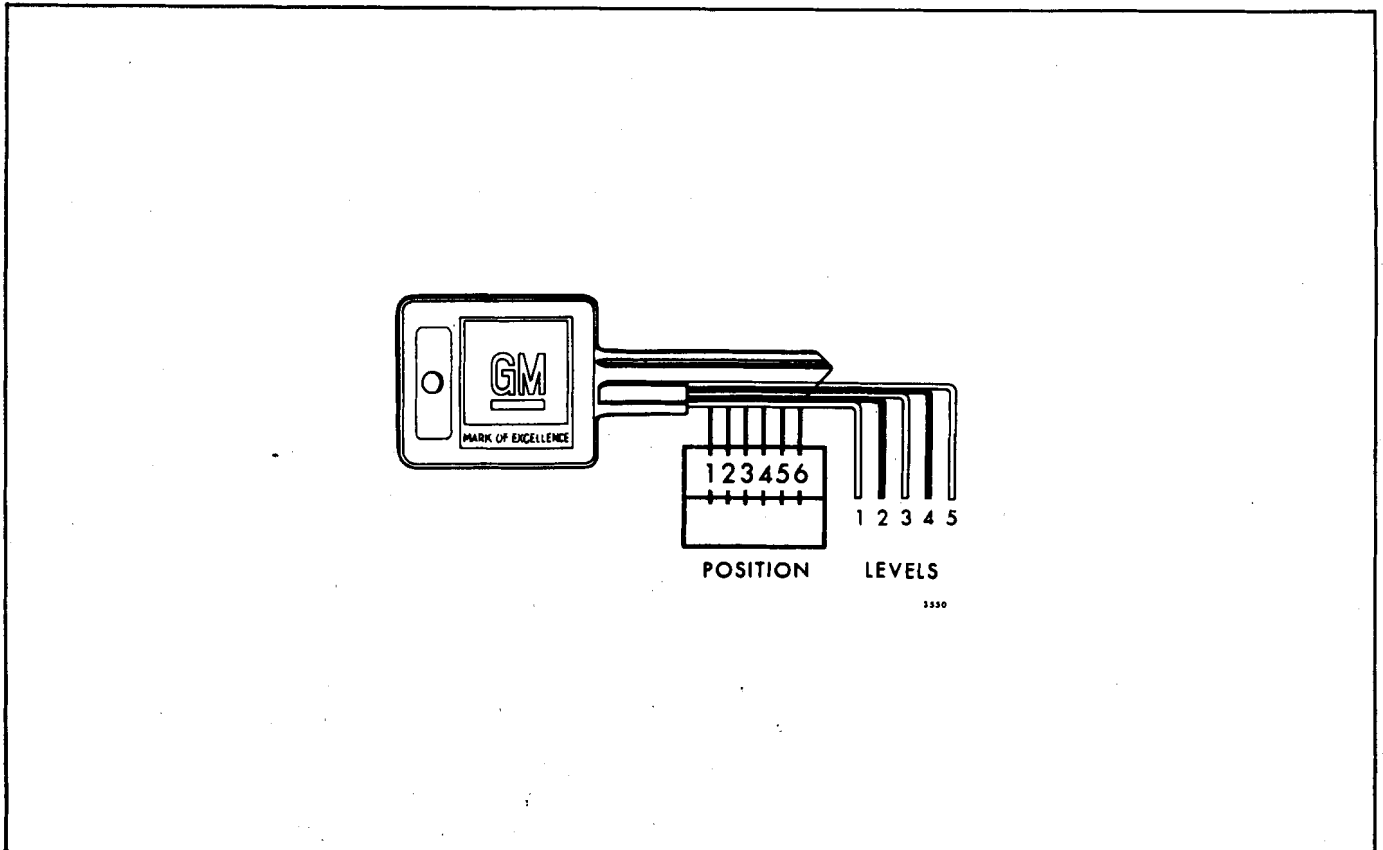

Fig. 1-4-Key Code Diagram
Keycode numbers are stamped on "knockout" plug in key head (to facilitate replacement or duplication of key). After code number has been recorded by owner, plugs should be knocked out of key head. From these numbers, lock combination can be determined by use of a code list (available to owners of key cutting equipment from equipment suppliers). If key code numbers are not available from records or from "knock-out" plug, lock combination (tumbler numbers and position arrangement) can be determined by laying key on diagram in Figure 1-4.
After the special code has been determined, either from code list or Key Code Diagram (Figure 1-4) cut blank key to the proper level for each of six tumbler positions, and check key in lock cylinder. The new key should agree with combination opposite code number in code list.
- a. Lay key on Key Code Diagram (Figure 1-4) with key outlined by diagram as accurately as possible.